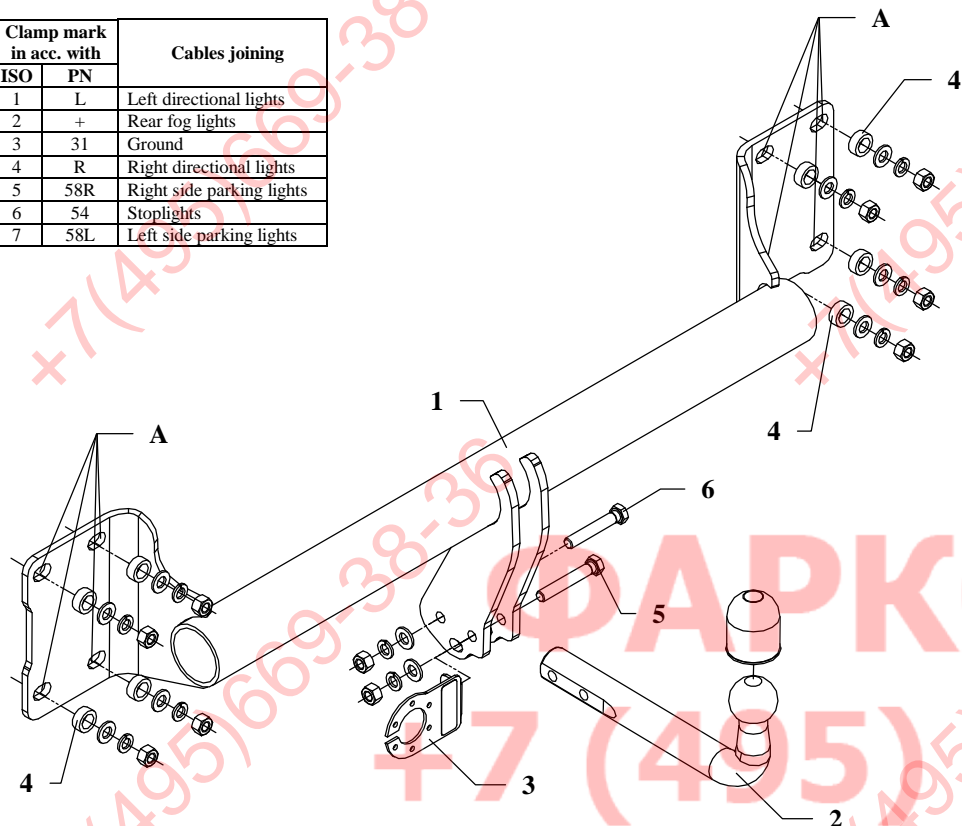

Fig. 1
2. Apply the main bar of the towing hitch (pos. 1) on the rear panel of the vehicle (on protruding original bolts) and fix loosely through holes A. Use distance sleeves (pos. 4) from the towing hitch accessories (see fig. 1).
3. Fix tow ball (pos. 2) using bolt M12x75mm (pos. 5) and M12x70mm (pos. 6). With bolt M12x75mm fix also a socket plate (pos. 3). See fig. 1.